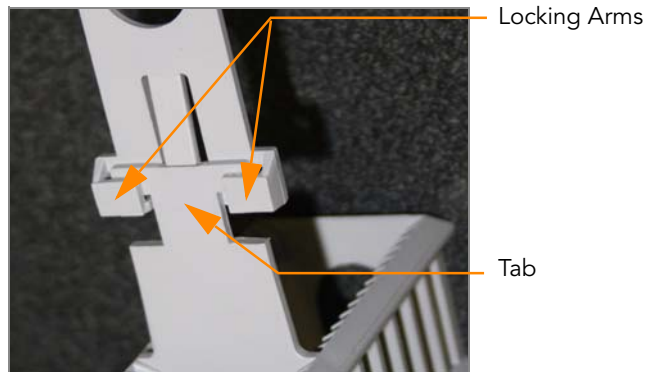

Figure 173 Staining Rack Locking Arms and Tabs
5. Submerge the unloaded staining rack into the wash dish with the locking arms and tab facing **you** (Figure 173). This orients the staining rack so that you can safely remove the BeadChips.